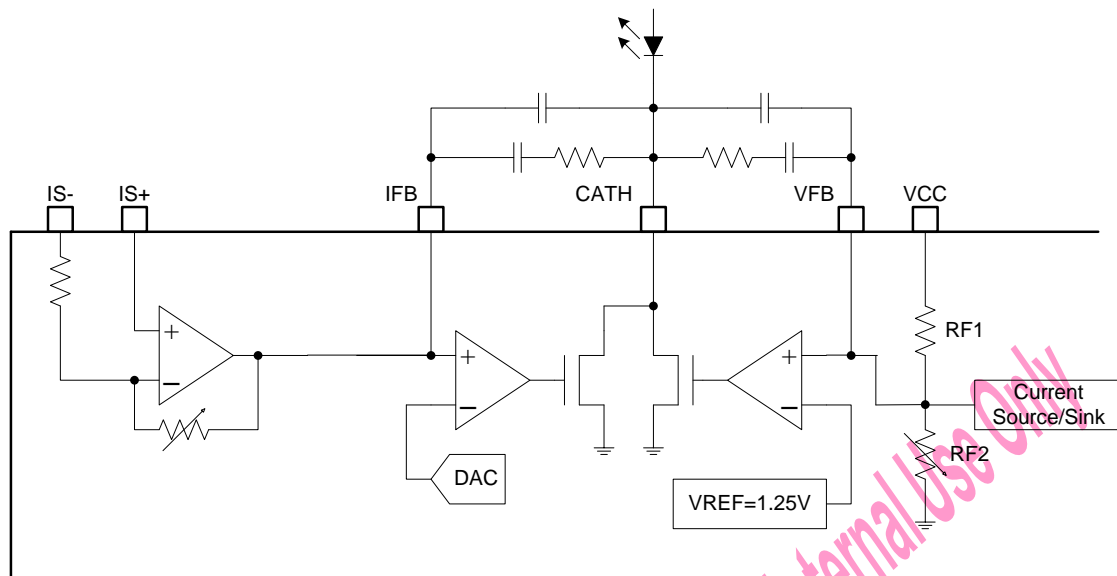

Figure 5.1 VBUS voltage control
VBUS output control circuit consists of Constant Voltage (CV) loop and Constant Current (CC) loop, and is illustrated in Fig.5.1.